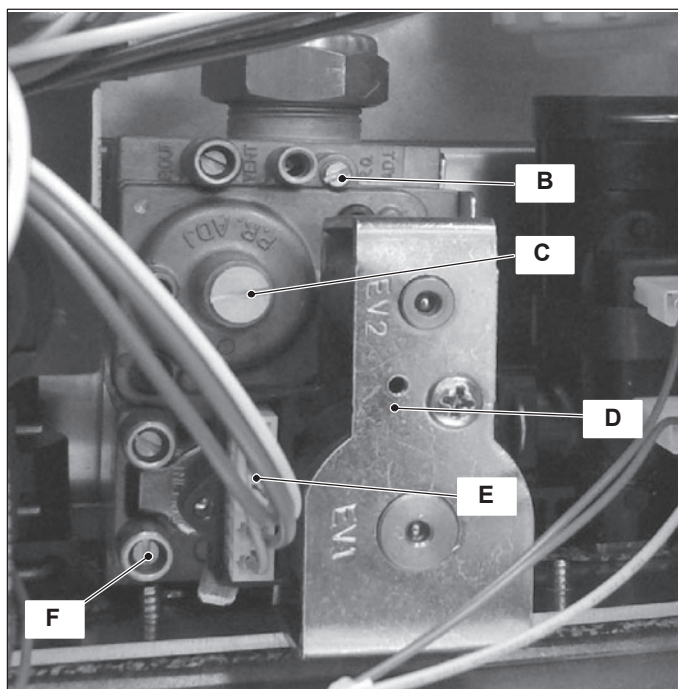

Figure 11.2
11.2 Description of the parts - (Figure 11.2)
- 3 Loosen the internal screw on the Inlet Pressure Test Point F (Figure 11.2) of the Gas valve and connect a pressure gauge using a suitable hose.
- 10 Disconnect the pressure gauge and close the Inlet Pressure Test Point F (Figure 11.2).
To adjust the CO₂ % value remove the brass plug by unscrewing it and rotate the Allen key screw ø 4 mm (C - Figure 11.2) (by rotating it clockwise the CO₂ % increases).
To adjust the CO₂ % value rotate screw (B - Figure 11.2) (by rotating it clockwise the CO₂ % decreases).
32 After adjustment fit the protective brass plug (C - Figure 11.2).
- 2 Disconnect the electrical connector E (Figure 11.2).